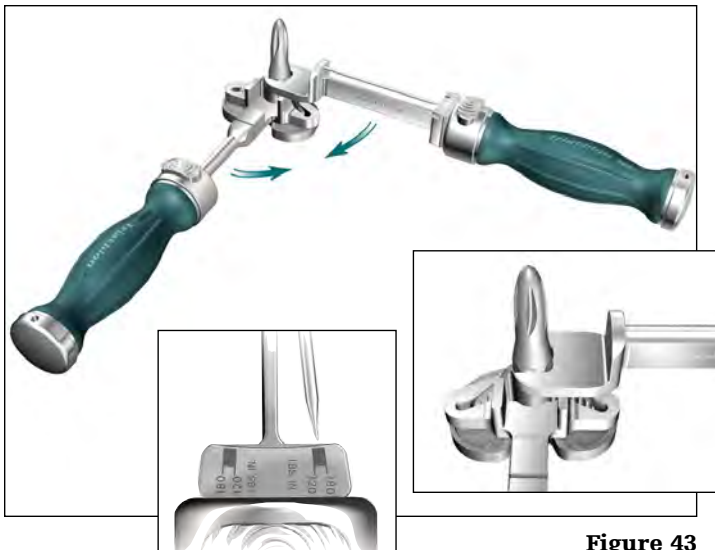

Figure 43
- Tighten by pulling the wrenches **together**. Torque stem to 120 in-lbs as indicated on the Universal Torque Wrench (**Figure 43**).